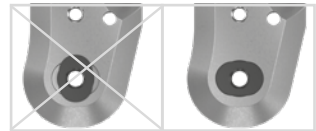

fig. 7
- 3 Place the bearing nut into the intended hollow on the joint's upper part. The bearing nut must be fully inserted in the hollow (fig. 7).